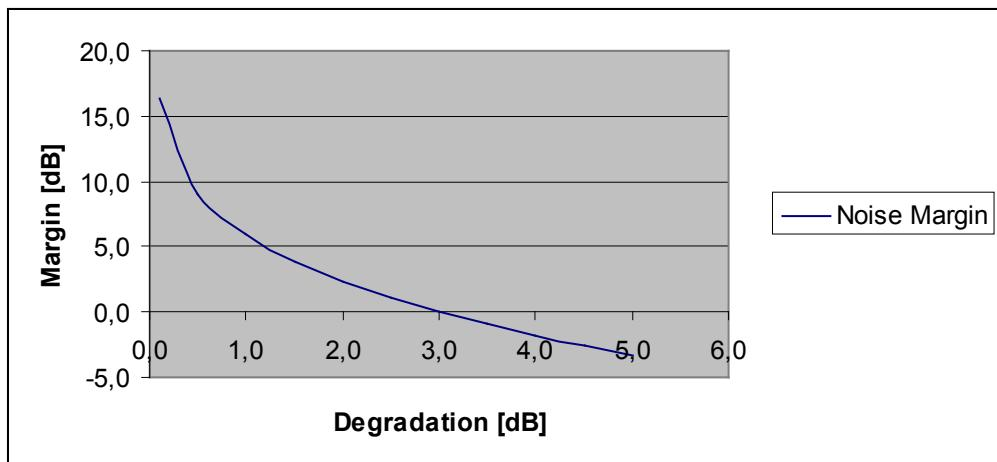

Figure 31 Noise Margin as a function of degradation
*Equation 2 then plotted in Figure 31
So if the overall performance shall be conserved we can assume that the total noise level shall be degraded only 1 dB. This assumption gives, according to Figure 31 Noise Margin as a function of degradation